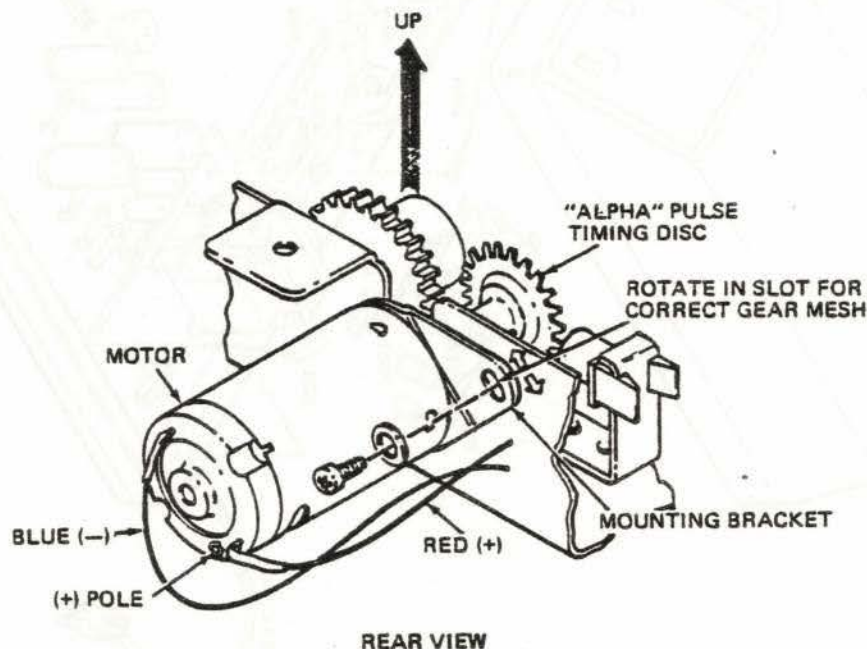

Figure 7-4. MOTOR UNIT REPLACEMENT
7.4 MOTOR UNIT (See Figure 7-4)
The motor unit consists of the 12-volt dc drive motor with the attached "alpha" pulse disc and mounting bracket. To remove the unit, refer to Figure 7-4 and perform the following steps: